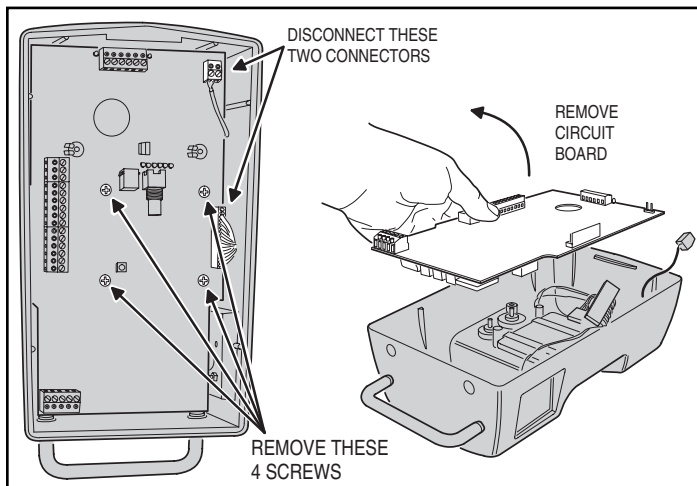

Figure 12. Removing the RE-1 Circuit Board
1. Disconnect the wiring harness connector and remove the antenna terminal block. Remove the four circuit board retaining screws and the RE-1 circuit board (see Figure 12).